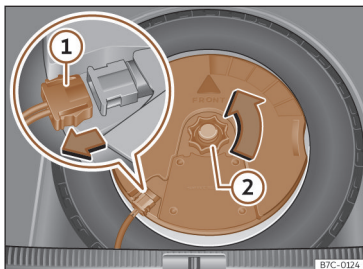

Fig. 233 In the boot: remove the subwoofer.
- Disconnect the subwoofer's speaker cable >>> **Fig. 233** ①.
- Turn the securing wheel anti-clockwise >>> **Fig. 233** ②.